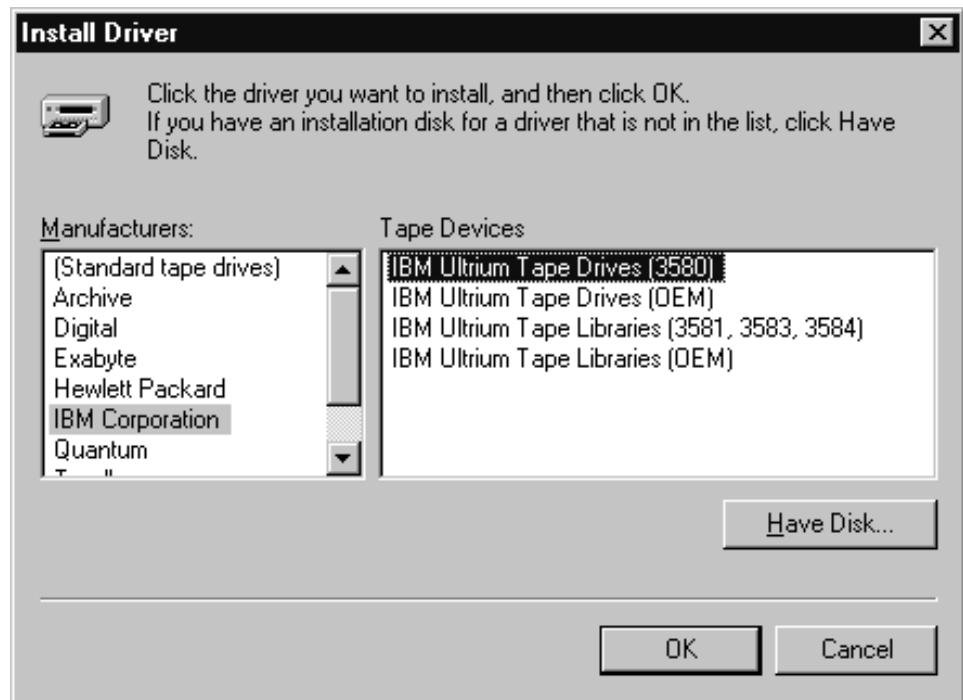

Figure 19. Install Driver Menu
8. Click **IBM Corporation**, select the device driver that matches your tape device, then click **OK**. See Figure 19 on page 205.